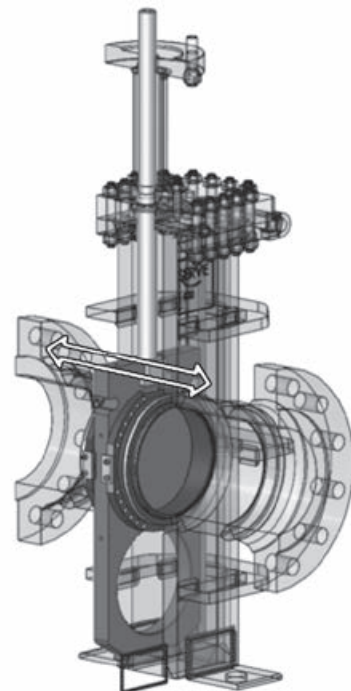

Figure 9: Slab and seats floating motion
- No side loads to the stem [Figure 9]:**